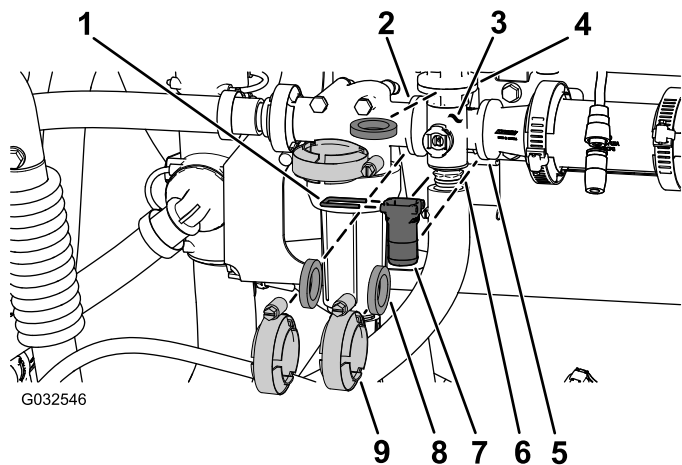

Figure 106
1. Remove the clamps and gaskets that secure the manifold for the agitation valve to the agitation-bypass valve, pressure-filter head, reducer coupling, and adapter fitting (agitation throttle valve) as shown in Figure 106.